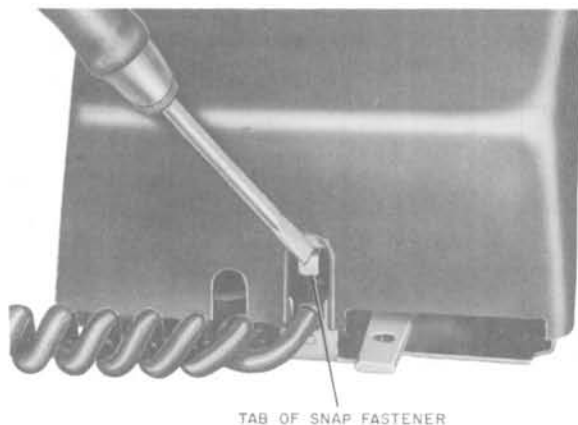

Fig. 4—Removing Wall Set Housing
- (1) Push inward tab of snap fastener located in cord slot (Fig. 4).
- (2) While tab is depressed lift bottom of the housing out and up, releasing snap fastener